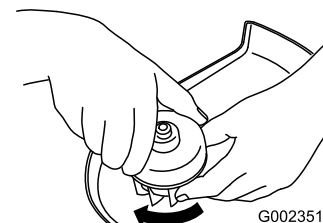

Figure 17
3. Twist the cap on securely clockwise (Figure 17).